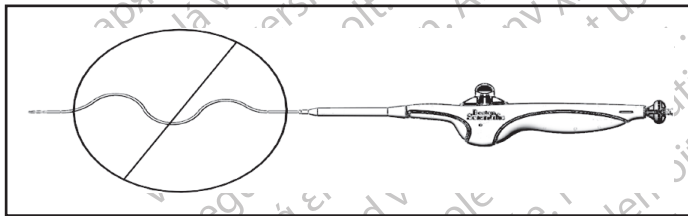

Figure 5. Eliminate slack
10.9 Stent Deployment Procedure (Reference Figure 5)
Note: Failure to eliminate slack (Reference Figure 5) and/or curvature of the delivery system catheter between the introducer/guide sheath and the delivery system handle during deployment may adversely affect deployment accuracy, especially in ipsilateral cases.